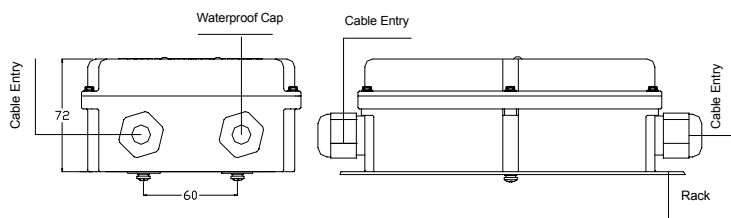

Fig. 3
b) Rack mounted: Remove the mounting bracket from the back of the interface, then install the interface to the rack using M4×10 bolts, see Fig. 3.